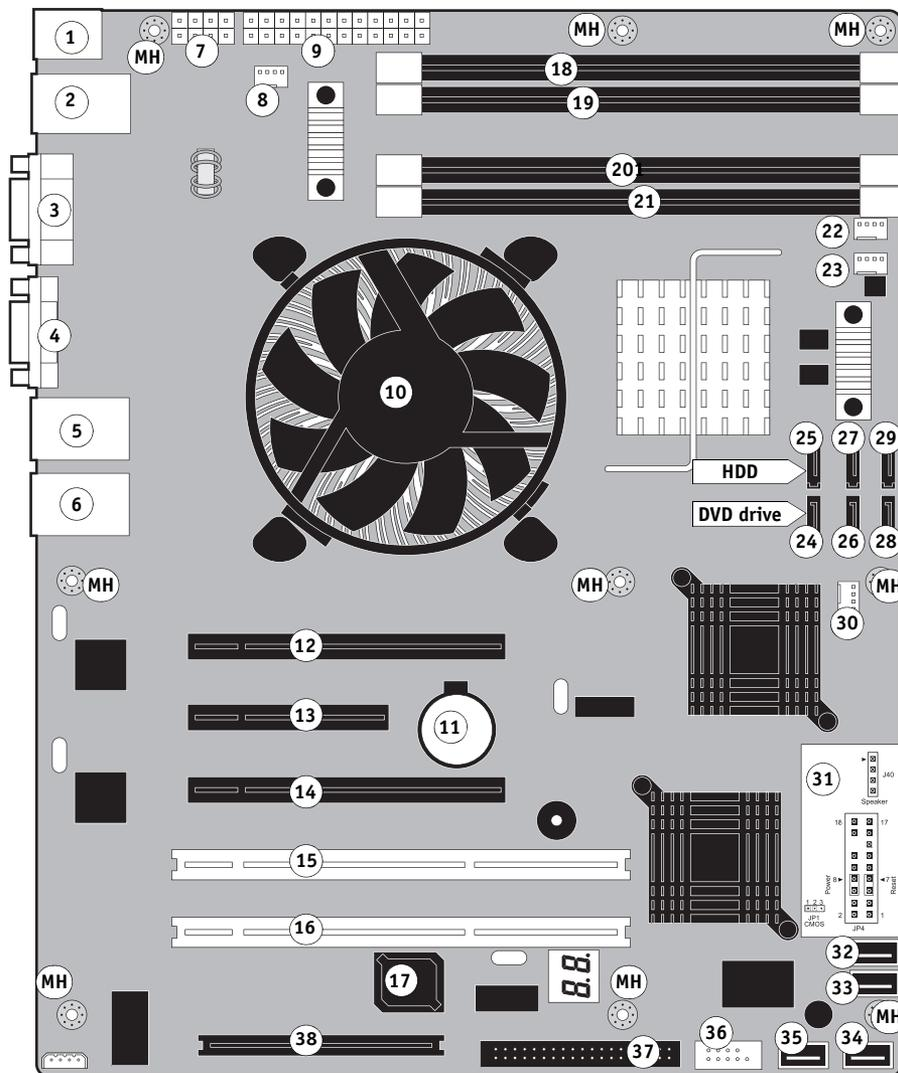

FIGURE 20: Diagram of the E-41 motherboard
The UIB cable is routed from a connector on the back of the User Interface Board to connector J38 on the motherboard (see Figure 20 on page 62).
For motherboard connector locations, see Figure 20 on page 62.
2. Remove the 9 mounting screws securing the motherboard to the chassis (for screw locations, see Figure 20 on page 62).**3. Remove the motherboard from the chassis.**
4. **Replace the video board in motherboard connector J12 (see Figure 20 on page 62).**